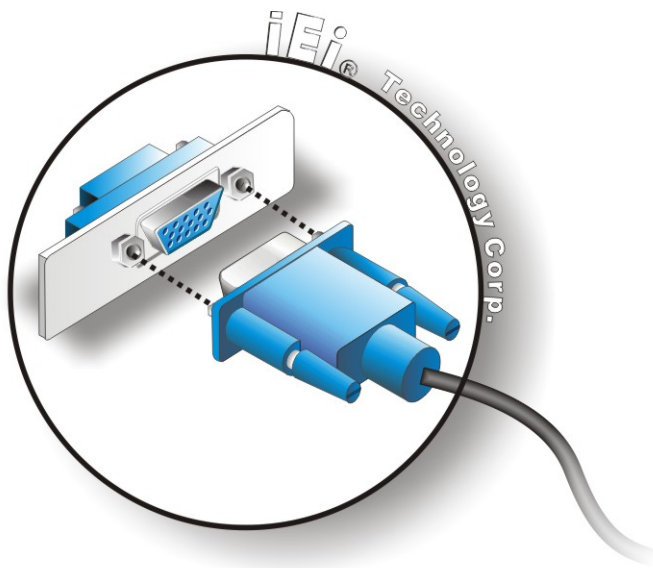

Figure 4-22: VGA Connector
- Step 3: Insert the VGA connector** Once the connectors are properly aligned with the insert the male connector from the VGA screen into the female connector on the WAFER-CV-D25501/N26001. See **Figure 4-22**.